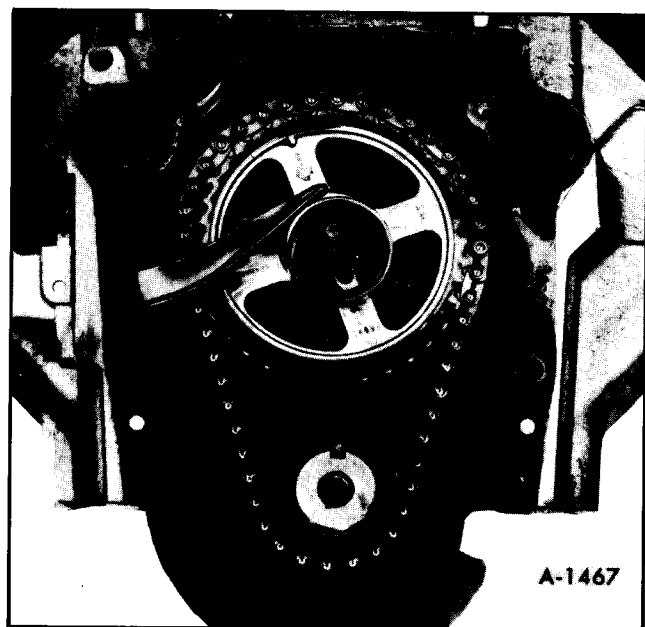

Figure 60—Fuel Pump Eccentric
2. Install fuel pump eccentric with flat side rearward. See Figure 60. Torque bolt to 65 ft. lbs.